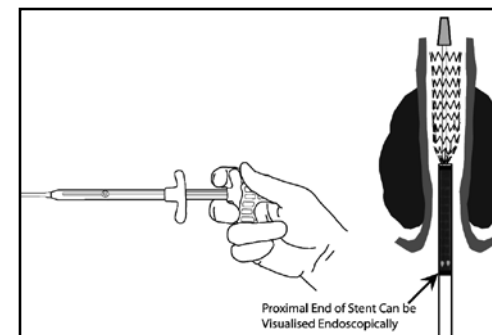

Figure 10. Slowly retract the outer sheath by pulling back on the first deployment trigger until it touches the handle.
5.5 When the first deployment trigger is touching the handle, the stent will be deployed ~40-80% of its length (Figure 10).